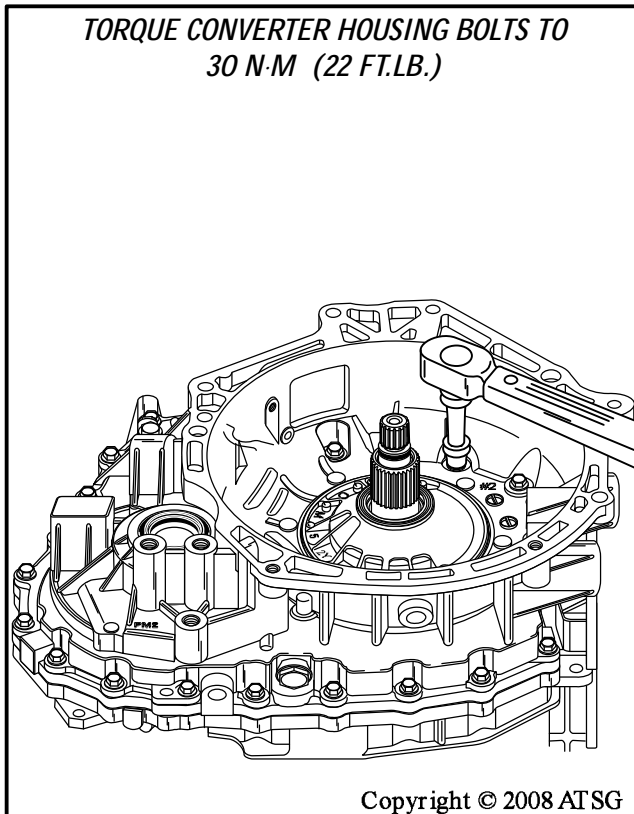

Figure 229
39. Torque all of the converter housing bolts to 30 N·m (22 ft.lb.), as shown in Figure 229, using a criss-cross pattern.